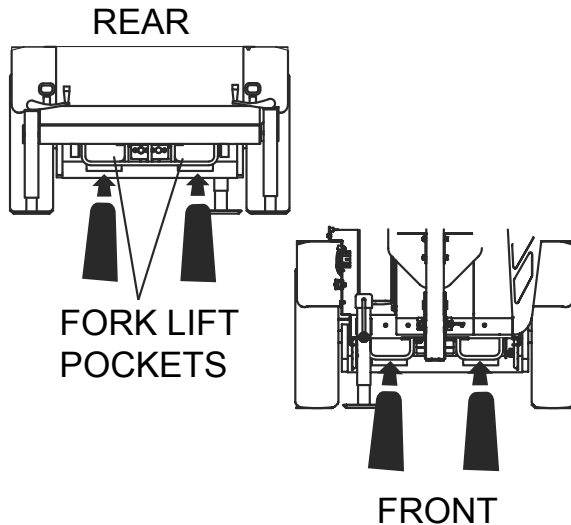

Figure 19. Inserting Forklift Forks (Front/Rear)
2. Insert the forklift forks into the fork pockets of the light tower either on the front or rear. The light tower can also be lifted from the right or left side (Figure 19).